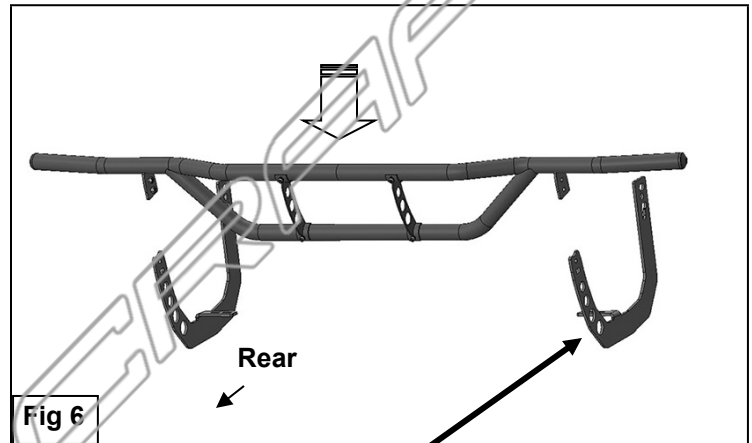
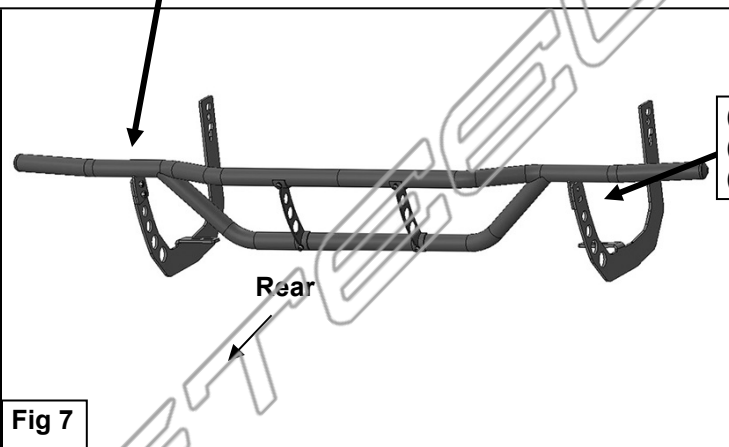

Fig 6
Fig 7
6. Carefully un-wrap the Rear Bumper Guard. With assistance, position the EVO3 Rear Bumper Guard up to the inside of the Brackets, **(Figure 6)**. Use the included (4) 8mm x 30mm Hex Bolts, (4) 8mm Lock Washers and (4) 8mm Flat Washers to bolt the Rear Bumper Guard to the Brackets, **(Figure 7)**.